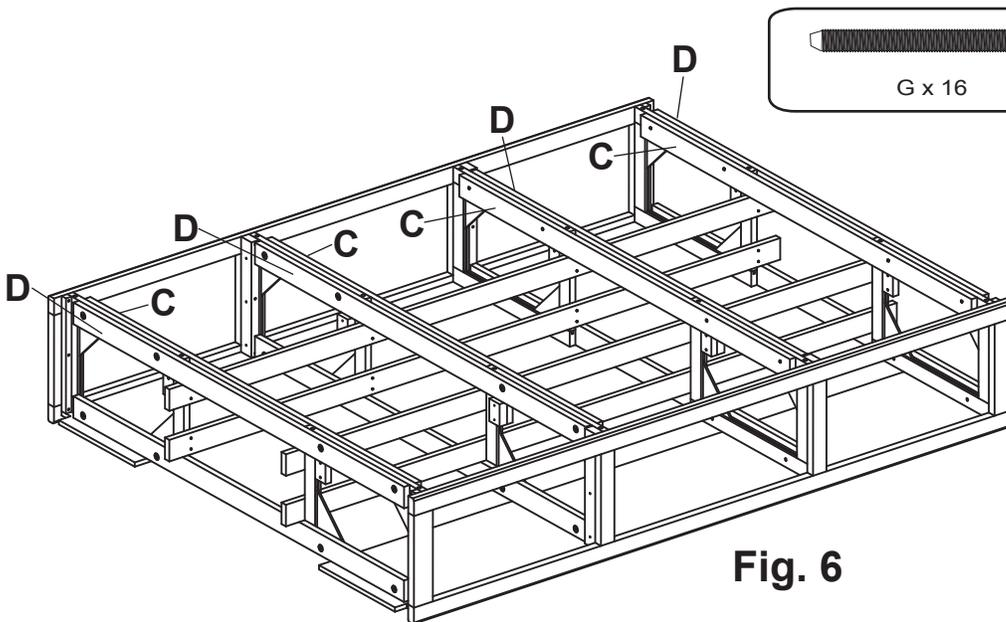

Fig. 6
6. Place the remaining Trestles (C and D) on the Pedestal Assembly. Face the Trestles with T-Nuts (D) toward the ends of the Assembly from the center as shown in Figure 6. Insert 2½" Hex Bolt (G) and Washer (H). See Figure 6a. **DO NOT TIGHTEN BOLTS UNTIL FINAL ASSEMBLY IN STEP 10.**